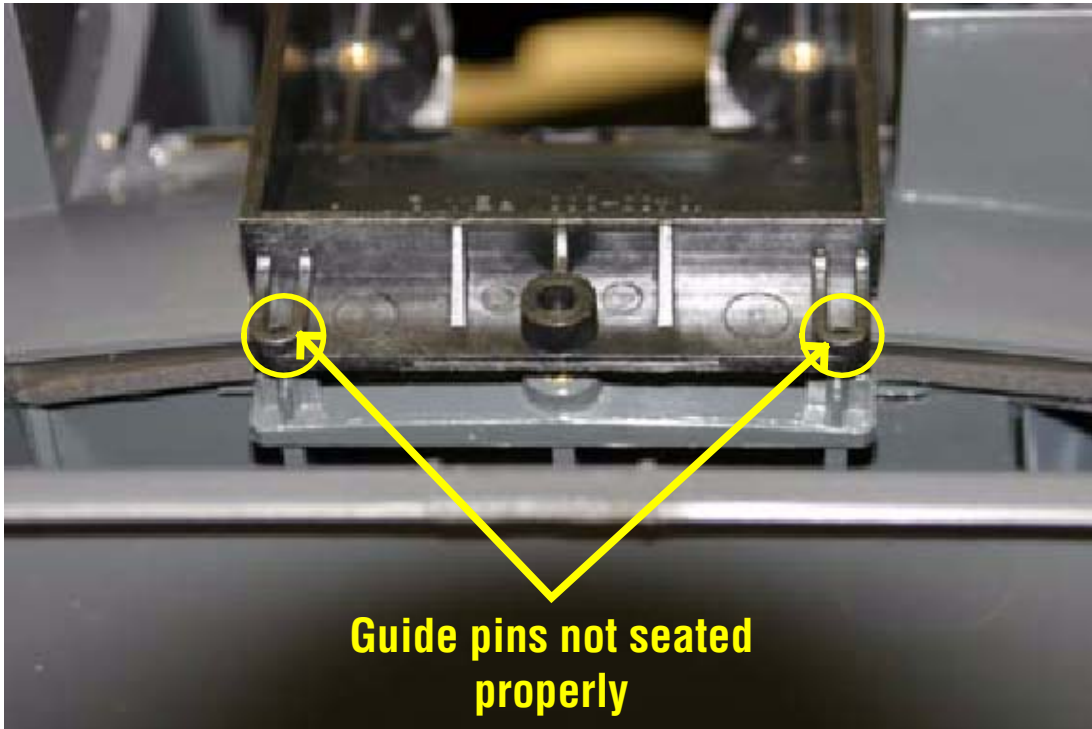

Figure 5
15. Make sure that the guide pins are seated properly in the camera housing. The guide pins should be level with the camera housing assembly. See figure 5 below for an example of improper placement and 6 below for the correct placement.